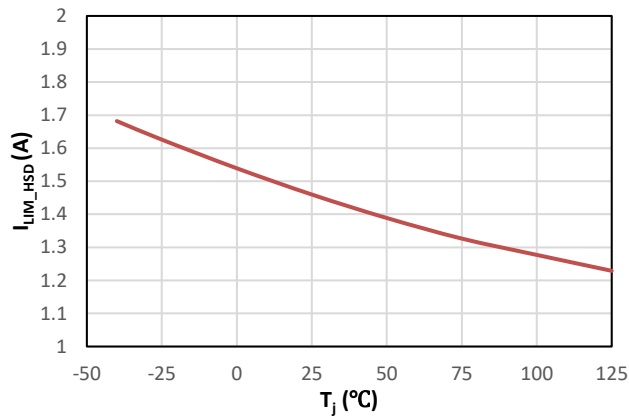

Figure 9. Switch Current Limit vs Junction Temperature
The GBI1600 output voltage can be easily set up using a resistor divider network R1 and R2 as shown in the typical application circuit Figure 9. Use Equation (3) to calculate the resistor divider values.